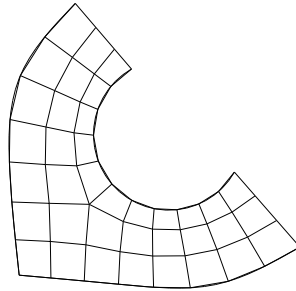
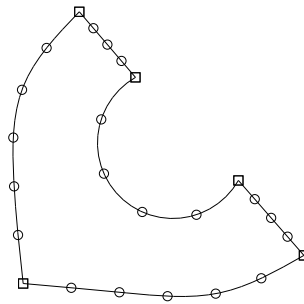
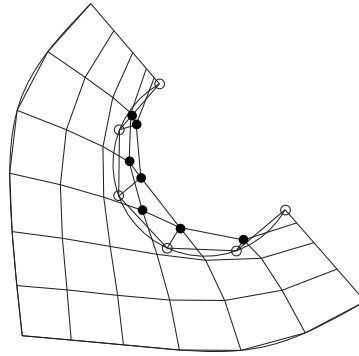

Figure 17-59 The mesh pattern for a regular pentagon is applied to the region.
Figure 17-60 Seeds prescribing a coarser mesh.
Figure 17-61 Nodes from the interior of the mesh fall outside the region's geometry.
However, if you seed the region so that the number of elements is reduced, as shown in Figure 17-60, a distorted mesh results due to the concavity at the highly curved edge. Nodes from the interior of the mesh (indicated by closed circles in Figure 17-61) fall outside the region's geometry, while nodes on the boundary of the mesh (indicated by open circles in Figure 17-61) remain on the boundary of the region's geometry.
- Change the mesh seeds and remesh. For example, the number of elements along the highly curved edge in Figure 17-59 is greater than in Figure 17-61.